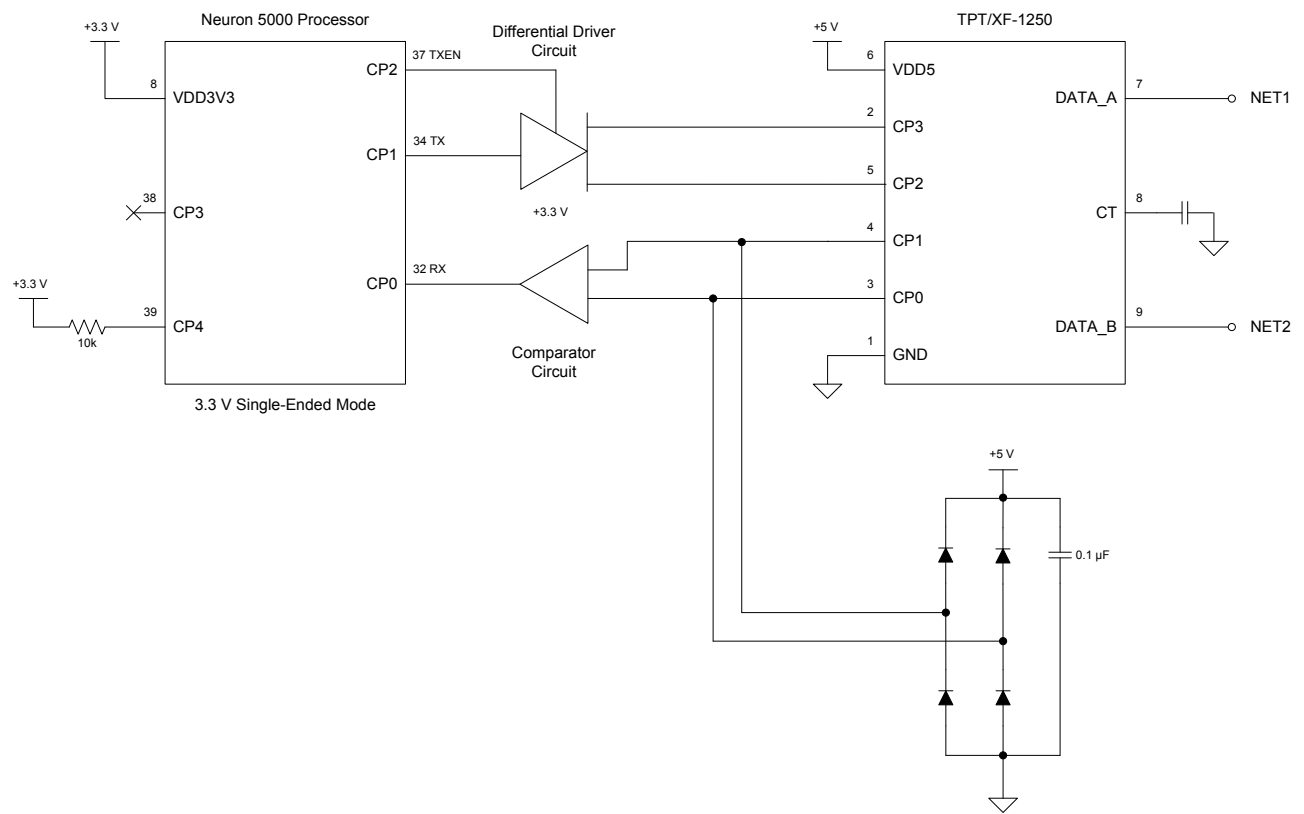

Figure 1. Connecting a Neuron 5000 Processor to a TP/XF-1250 Transceiver
Figure 1 on page 3 shows the basic configuration for connecting a Neuron 5000 Processor to a TPT/XF-1250 transceiver.
- **Clamp Diodes:** Four diodes clamp the TPT/XF-1250 transceiver’s differential receive signals to ground during ESD and surge transients, as shown in Figure 1 on page 3.